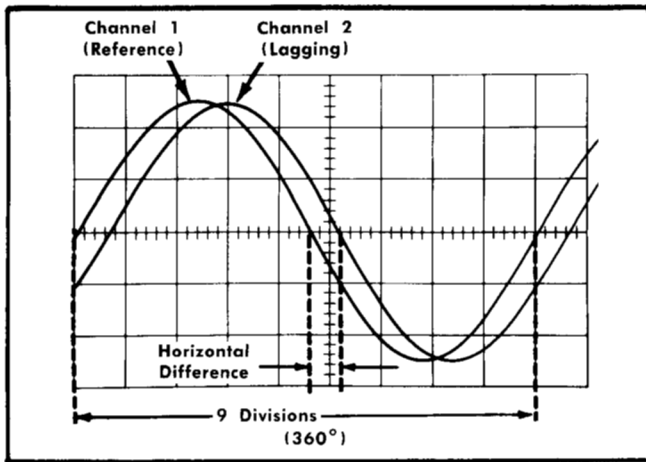
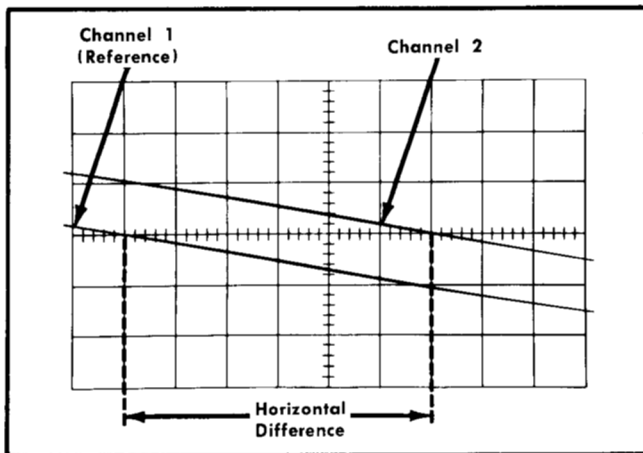

Fig. 2-22. Measuring phase difference.
Fig. 2-23. Accurate phase-difference measurement with increased sweep rate.
10. Turn the A VARIABLE control until 1 cycle of the reference signal (Channel 1) occupies exactly 9 divisions horizontally (see Fig. 2-22). Each division of the graticule represents 40° of the cycle (360° ÷ 9 divisions = 40° / division). This is the phase factor.
Example. Assume a horizontal difference of 0.6 divisions with a phase factor of 40° as shown in Fig. 2-22.
Example. If the sweep rate were increased 10 times with the magnifier, the adjusted phase factor would be $40^\circ \div 10 = 4^\circ/\text{division}$. Fig. 2-23 shows the same signals as used in Fig. 2-22 but with the MAG switch set to $\times 10$. With a horizontal difference of 6 divisions, the phase difference would be: